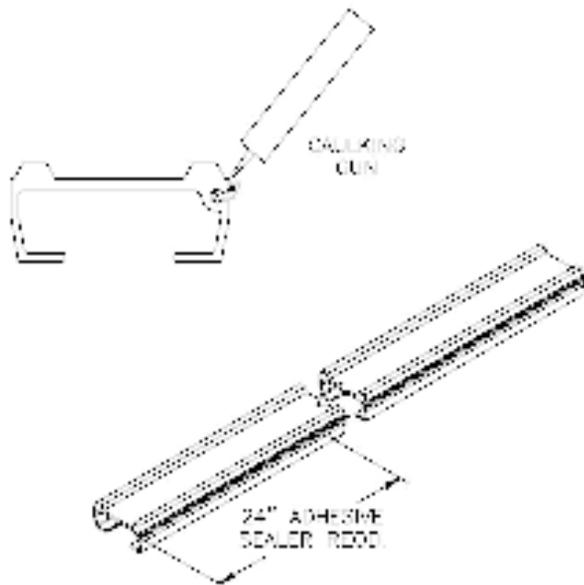

Figure 41
- g. A 24" long bead of adhesive sealer is required between the seal and the floor slat (Figure 41). Pull the seal outward to apply the adhesive. Press the seal against the floor slat after applying the adhesive. Allow the adhesive to dry before installing the floor slat.